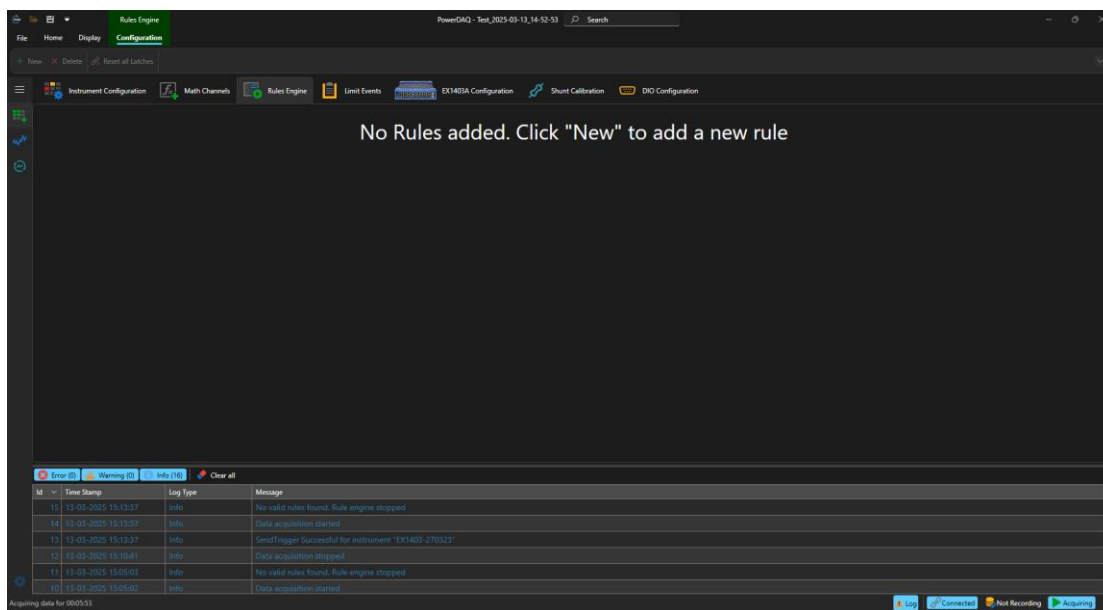

Figure 47. Default Rules Engine Page
2. Select the **Rule Engine** tab to display the default rules engine page (Figure 47).